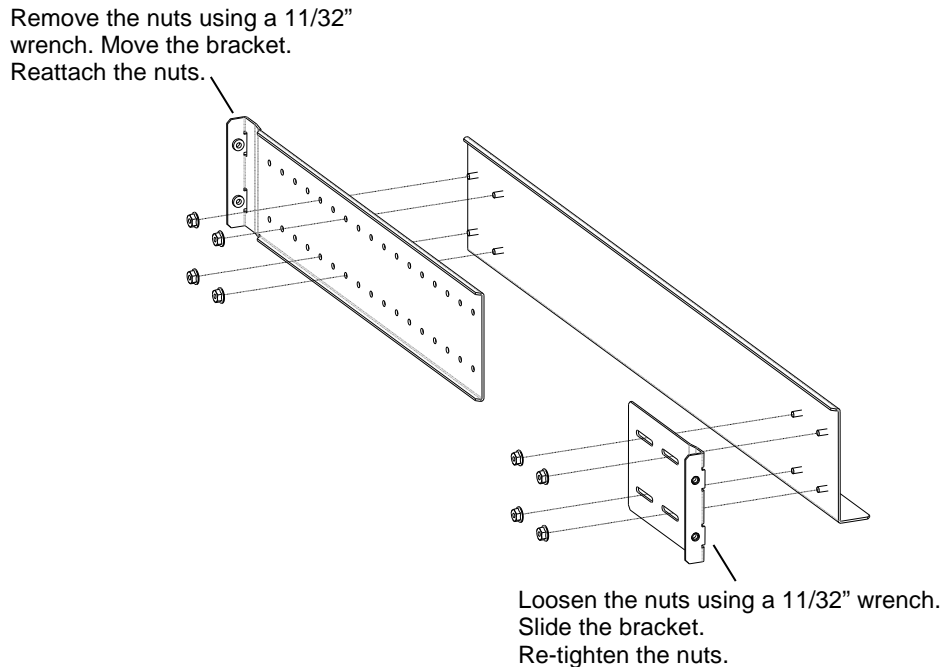

Figure 7-20 Adjusting the Location of the Rack Rail Assembly Brackets
- Each rack rail assembly bracket has four hex head nuts that are used to position the brackets. To move a long bracket, use a 11/32" wrench to remove all four nuts, reposition the bracket along the four threaded studs of the rack rail and then re-attach the four nuts. The short bracket is used to "fine tune" the length of the assembly by loosening the four nuts with the 11/32" wrench, sliding the bracket and then re-tightening the nuts. See Figure 7-20.